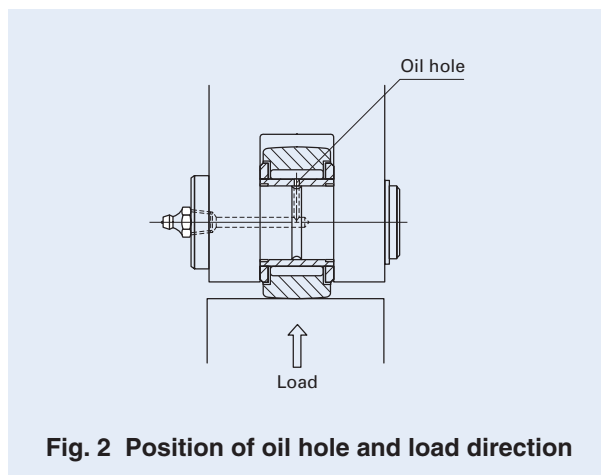

Fig. 2 Position of oil hole and load direction
- ② When mounting Roller Followers, pay special attention to avoid locating the oil hole of the inner ring within the loading zone. This may lead to a short bearing life. (See Fig. 2.)
- ③ When mounting Sealed Type Separable Roller Followers, do not cause the side plates to come off. If they come off, set them again in place taking care to avoid damaging the seal lips.
- ④ In case of Roller Followers without an inner ring, the shaft requires heat treatment and grinding finish. The recommended surface hardness of the shaft is 58~64HRC, and the recommended roughness of the shaft is $0.2 \mu m R_a$ or less.